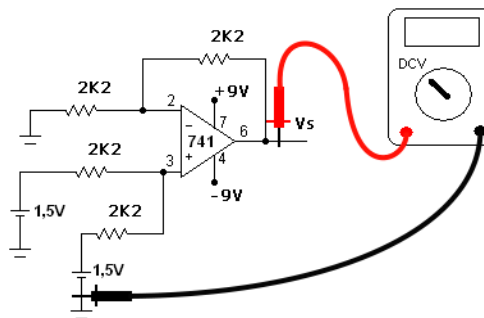
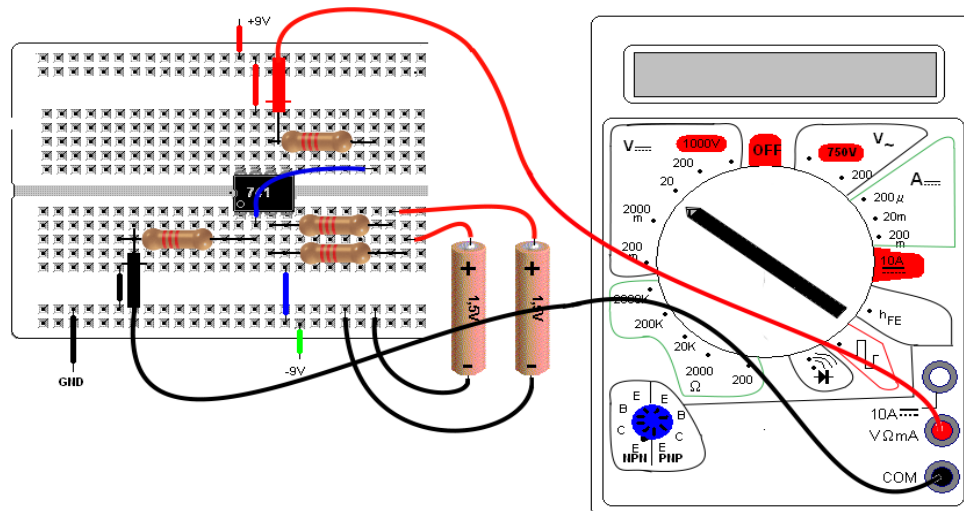

Figure 5 – Non-inverting adder circuit
Figure 6 – Non-inverting summing amplifier on the breadboard
- 3) For the circuit in Figure 5, a non-inverting adder, calculate the output voltage for each of the combinations of input voltages in Table 3.
- 4) Assemble the circuit in Figure 5 in accordance to the layout suggestion in Figure 6. Measure the output voltage for each of the input combinations in Table 4. *Note: indicate the effective values of the battery voltages (measured value) in the table.*